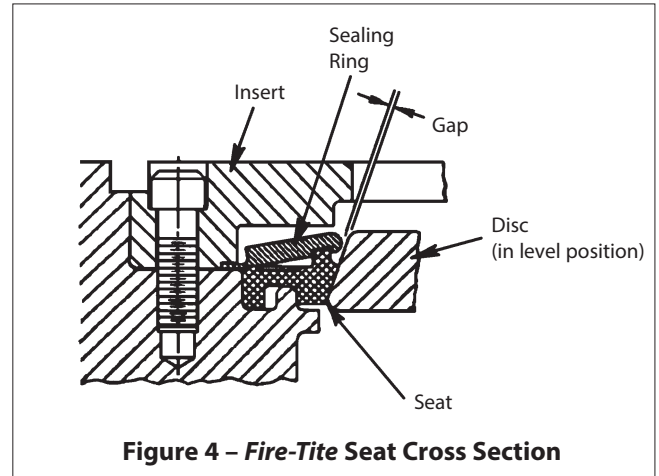
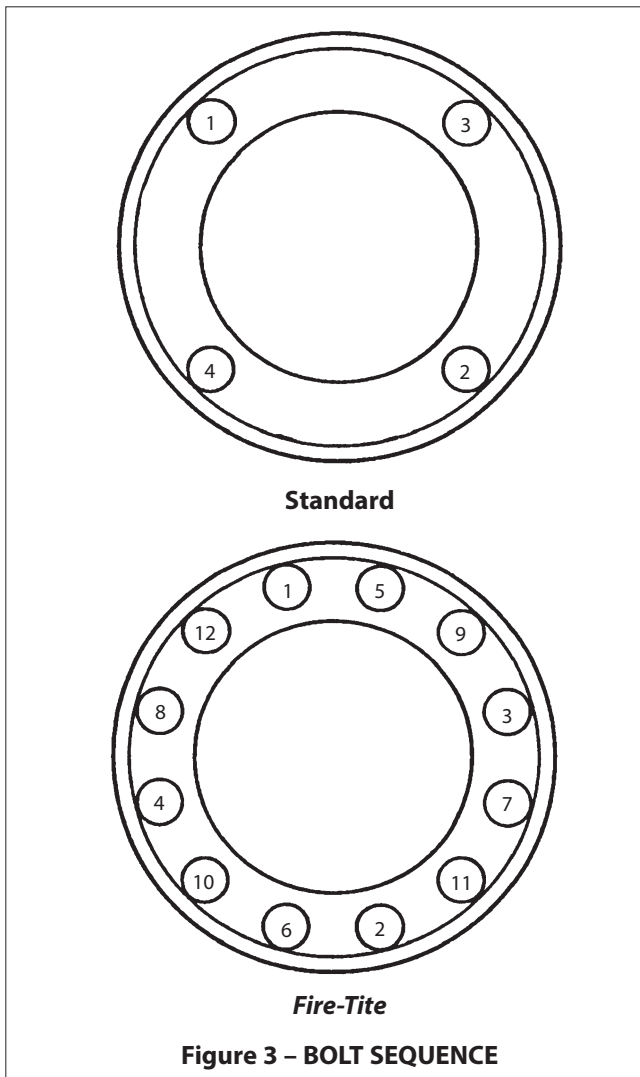

Figure 4 – Fire-Tite Seat Cross Section
Figure 3 – BOLT SEQUENCE
9. Replace the insert (2) and insert screws (21). Tighten the screws uniformly in a sequence such as shown in (**Figure 3**), to a torque value of 17 – 25 IN•LBS (1.9 – 2.8 N•m) On *Fire-Tite* valves, check the gap between the sealing ring and the disc using feeler gauges. The gap must not vary more than .008" (.2 mm) when checked at six spots equally spaced on the disc (See **Figure 4**). **Note:** After installation of a new seat, torque may be higher for a few cycles.